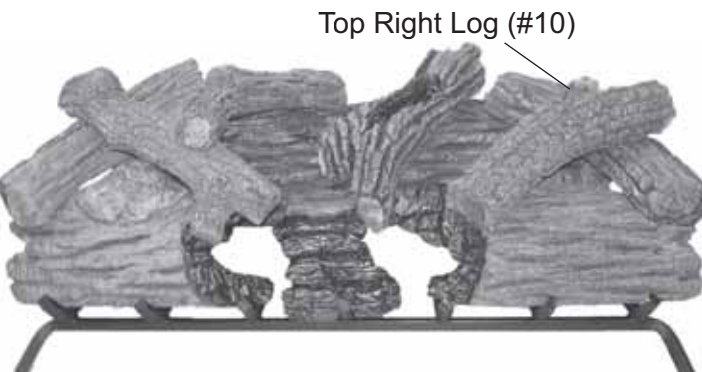

Figure 45 - Installing Top Right Log (#10)
11. Install top right log #10. *See Figure 45.*